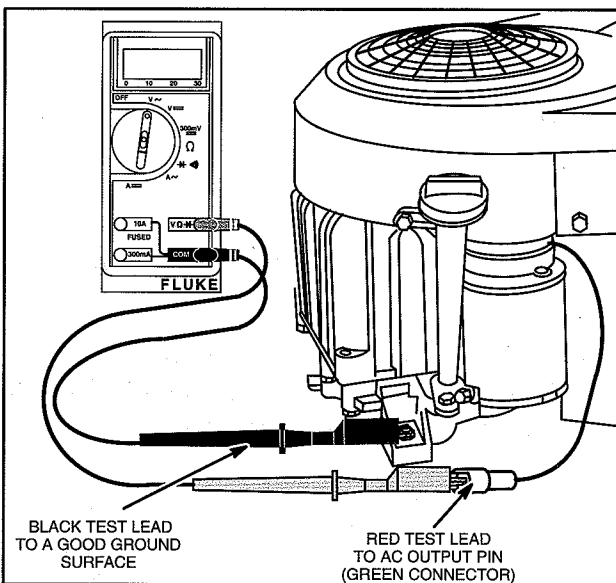

Fig. 17 – Testing Alternator Output
4. Attach RED test lead clip to output terminal, Fig. 17.